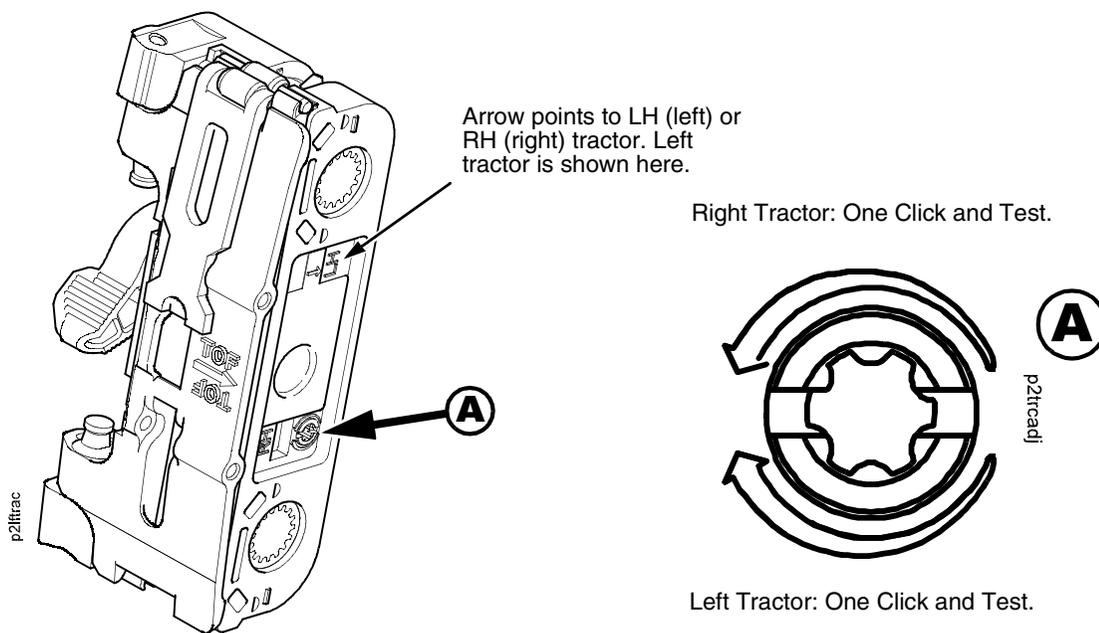

Figure 17. Tractor Belt Tension Adjustment
3. Carefully note the initial position of the adjustment screws. (See Figure 17.)
4. On the inner side of the left tractor, use a Torx T-10 driver to rotate the adjustment screw one detent to increase tension. On the inner side of the right tractor, use a Torx T-10 driver to rotate the adjustment screw one detent to increase tension. (See Figure 17.)